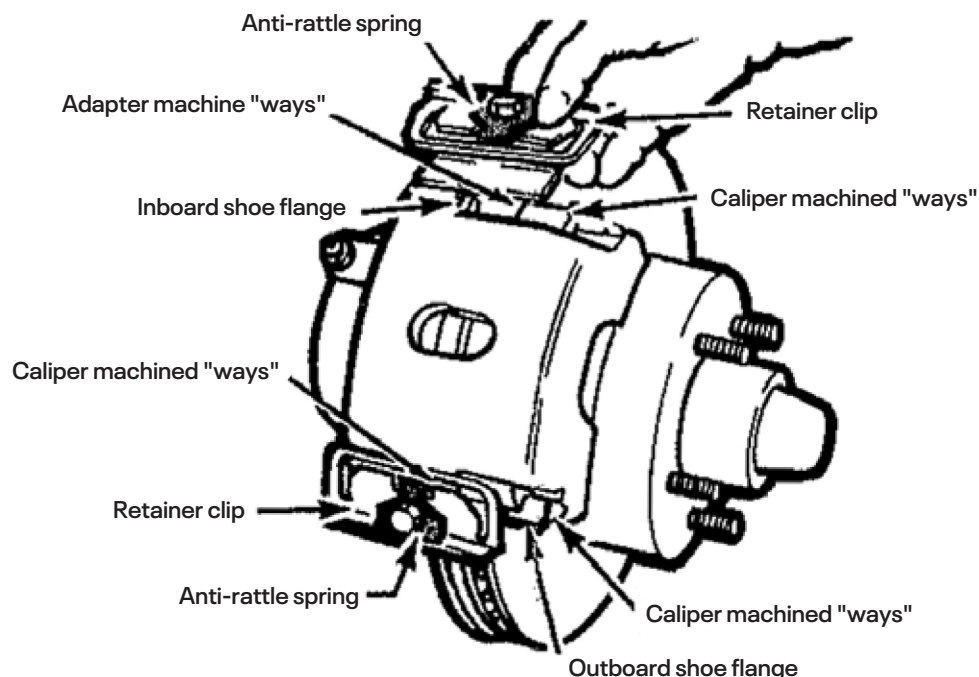

Figure 1
- Pack all bearings with hi-temp wheel bearing grease. A bearing packing tool is ideal for the job. (See Figure 1)
2. Remove caliper retaining clips and anti-rattle springs (Fig. 1, previous page)